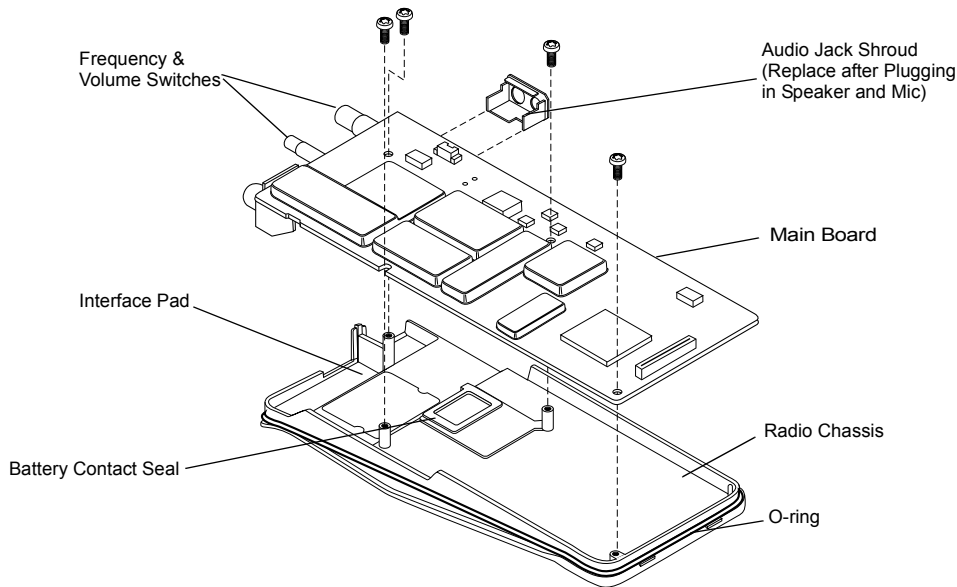

Figure 8-12. Installation of Main Board onto Chassis
1. Replace the battery contact seal (if necessary) surrounding the battery contact (Figure 8-12).
- c. Slide the audio jack shroud onto accessory connector (Figure 8-12).